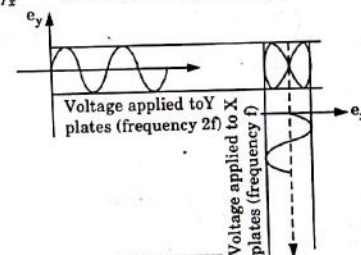

Fig. 4.8.2.
7. As shown in Fig. 4.8.2 sine wave is applied to X and Y plates.